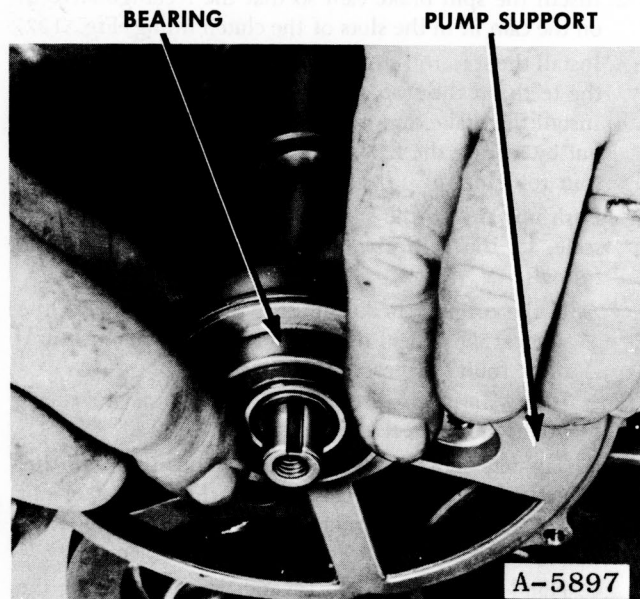

Figure 123
2. Remove the drum shaft lower bearing from the pump mounting bracket. Figures 123 and 124.